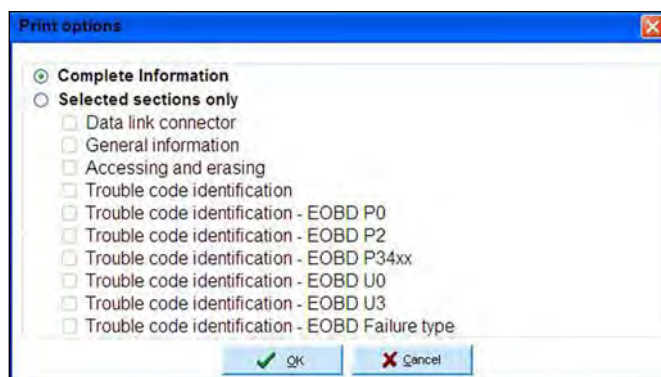

Figure 8-5 Sample Print Options window
1. Select the **Print** icon on the toolbar, see “Toolbar” on page 114 for details. The Print Options window opens (Figure 8-5).